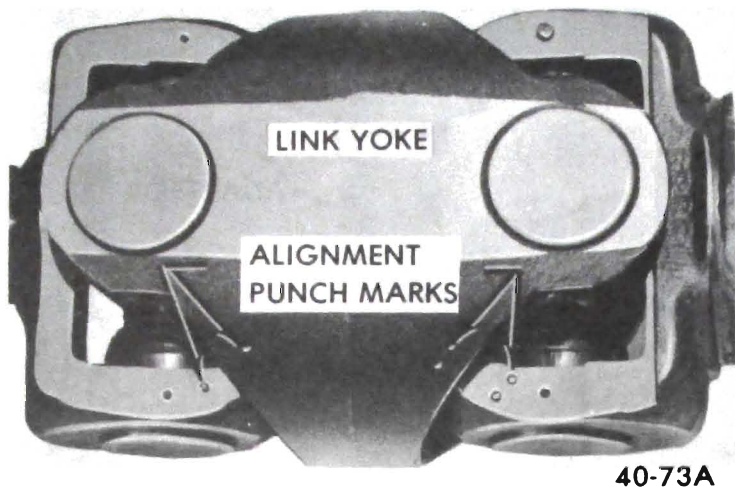

Figure 40-63 Link Yoke Showing Alignment Punch Marks
2. Mark all yokes before disassembly so that they can be reassembled in their original relationship to retain drive shaft balance. See Figure 40-63 for marking method.